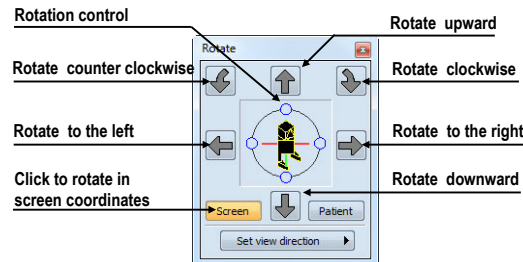

Figure 269 – Rotate tool (Screen mode)
- rotation in screen coordinates (see Figure 269)